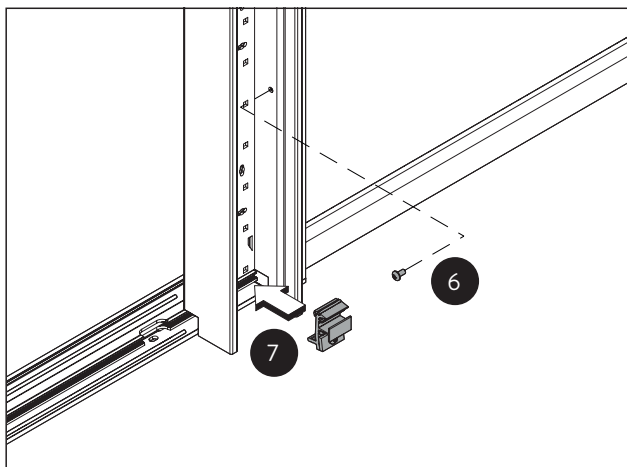

Fig. 8 Screwing the base profile to the frame
7. Attach the base profile to the mounting profile using the clamping piece (see Fig. 8).